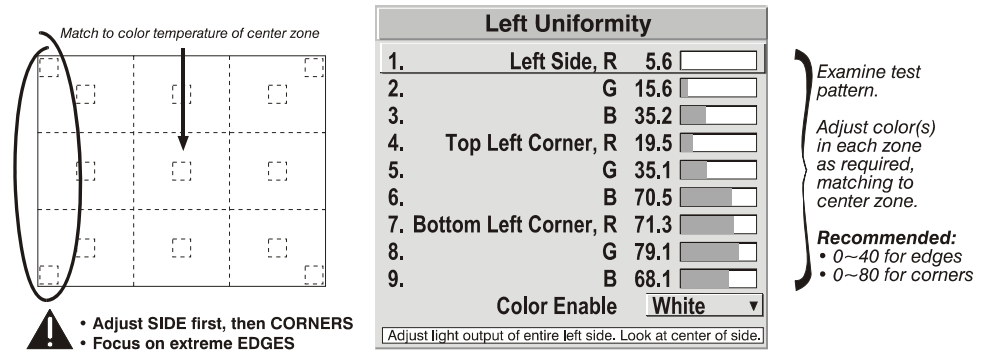

Figure 3.16. Match Zones to Center Color Temperature
- 2b) Return to the *Brightness Uniformity* menu. Beginning with the screen that exhibits the most obvious color shift(s), for each edge that exhibits a noticeably different color temperature from the center, select the corresponding *Uniformity* adjustment menu—*Left*, *Right*, *Top* or *Bottom*. For example, if any part of the left side is too blue, too red or too green, go to the *Left Uniformity* menu and adjust the colors (i.e., change their light output) until all portions of the left side closely match the center color temperature. Adjust an edge first (focusing on its center), and then adjust its corners. See Figure 3.16.